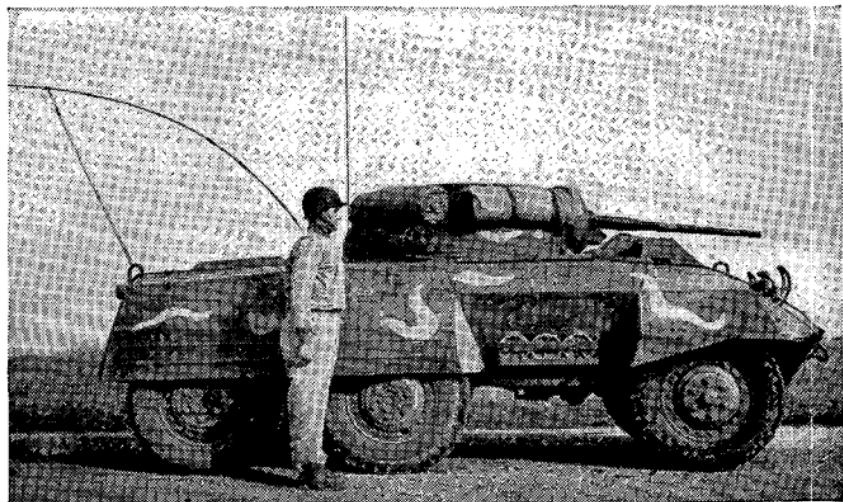

FIGURE 1.—Light armored car M8.
- 1. PURPOSE AND SCOPE.—*a.* This manual is designed for the use of the platoon leader and car commander in training members of the crew of the light armored car M8. (See fig. 1.) It is to be used as a guide to achieve orderly, disciplined, and efficient execution of mounted and dismounted action, and precision, accuracy, and speed in the service of the vehicular weapons.